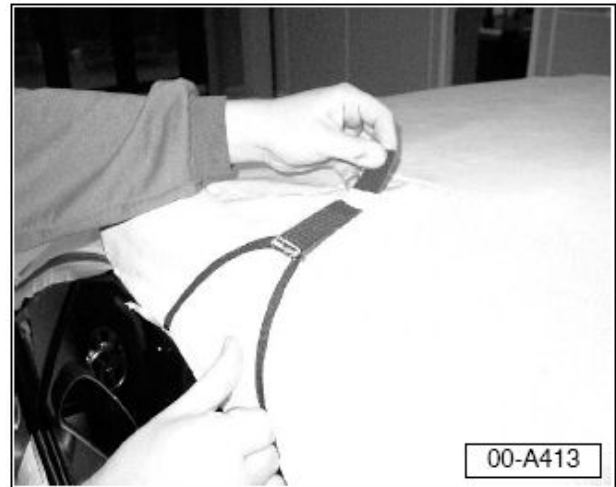

Figure 3. Inserting fabric strip.
3. Insert fabric strip into tab provided to retain cover (if applicable) (Figure 3).